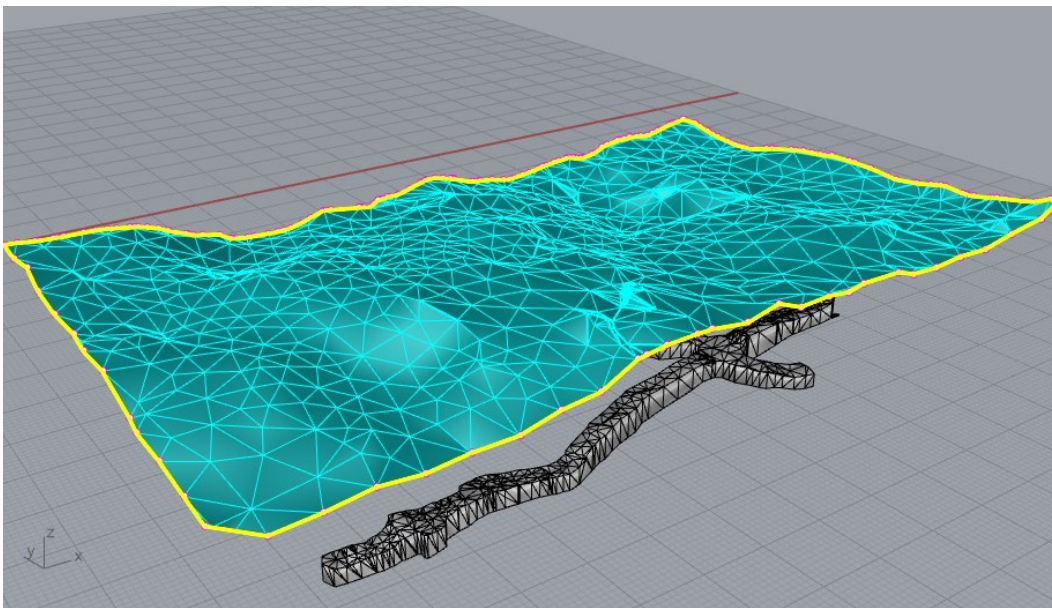

Figure 68: The fixed topo mesh with the remaining naked edges selected
10. The topo mesh now only contains holes in the surface and can be resolved by running **GHeal** → *AutomaticHeal* → *IssuesToFix* and set *FillHoles* = *Yes*, and all other parameters set to *No*, and all *AdvancedParameters* kept at their default values. All problems in the surface mesh should now be resolved, and there should now only be 195 naked edges in the “Naked Edges” layer. This can also be verified by unlocking the “GHEAL_OUTPUT” layer and running **_SelCrv**; only 1 curve should be added to the selection (Figure 68).